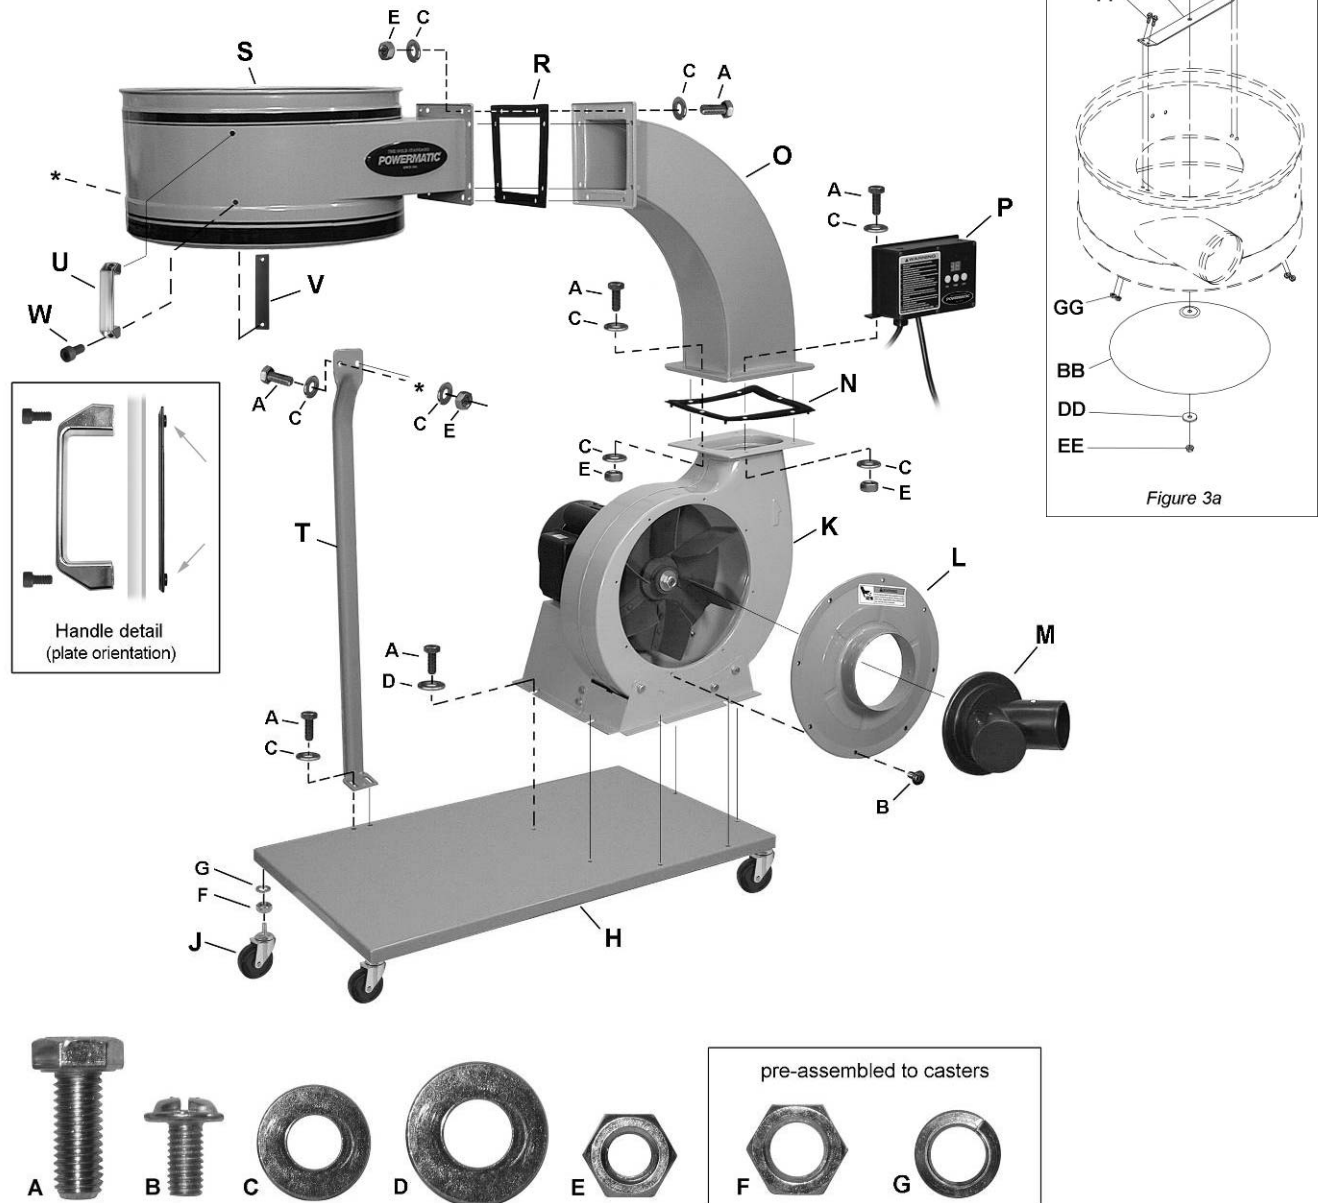

Figure 3: Assembly and hardware identification
Refer to Figure 3 to identify items H–W.
All instructions on this page refer to Figure 3.
1. Place the *lower gasket* (N) on the *fan housing* (K). Line up the rubber pegs on the gasket (face down) with the holes in the housing.
2. Place the *connector tube* (O) on the *fan housing* (K), making sure that the holes of the mating flanges are aligned.
**Note:** Refer to Figure 3 to make sure that the connector tube is facing the proper direction.
3. Insert an M8x20 *hex cap screw* (A), through the M8 *washer* (C) and flanges of the *connector tube* (O) and *fan housing* (K).
4. Place another *washer* (C) and a *hex nut* (E) on the protruding end of the *screw* (A) and hand-tighten only.
5. Mount the *control box* (P) to the two holes at the front of the connector tube flange.
1. Remove the *plate* (V) from the *handle* (U) by loosening the two *socket head cap screws* (W) with a 6mm hex wrench.
2. Install *handle* (U) to the holes in the *collector housing* (S) by inserting the socket head cap screws through the handle, the collector housing, and into the plate on the opposite side. Tighten the screws.
**Note:** Make sure the *plate* (V) is oriented properly, as shown in the Detail in Figure 3: The protrusions on the plate should face away from the handle.